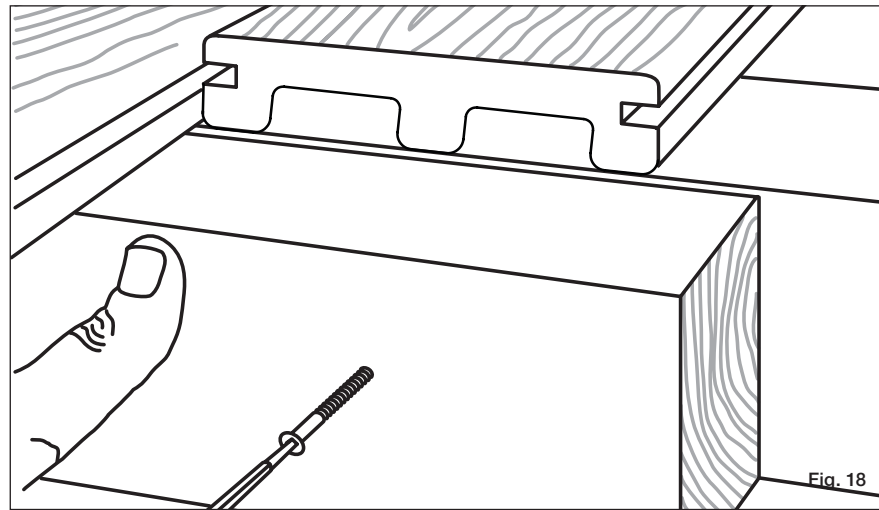
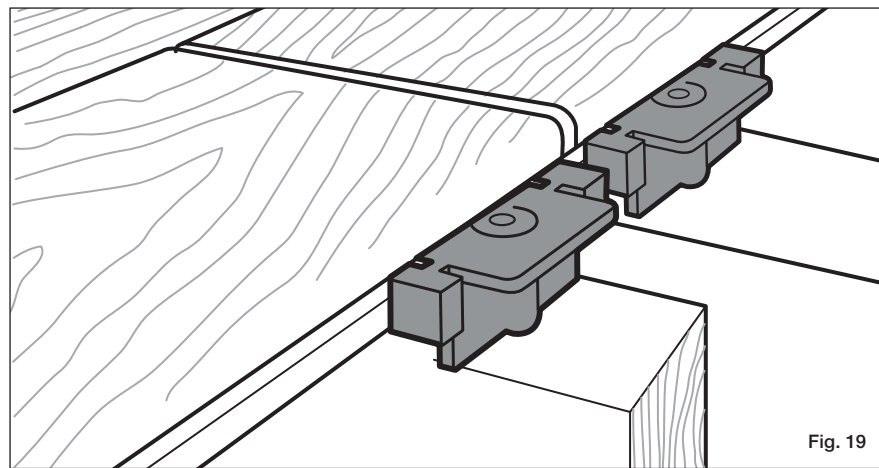

Fig. 18
Fig. 19
Step 7 Install one Stowaway fastener at each joist location along the length of the board. For installations where deck boards are butted end-to-end at the joist, an 8" (20.3 cm) block must be added using a Stowaway hidden fastener clip at the end of each board (Fig. 18 and Fig. 19). Be sure to gap the boards as previously described.